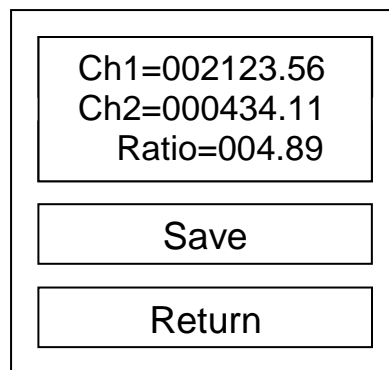

Figure 6. **Result** screen
- e. Insert the sample tube and touch the **“Sample”** tab for the sample measurement. The next screen will prompt you to place a sample tube in the testing chamber, before you can press **“Measure”** to take the sample reading. The measurement result will be displayed on the **“Result”** screen in a few seconds, as shown in Figure 6, where the measured concentration of both channels, plus the Ratio of Channel#1/Channel#2, are shown.